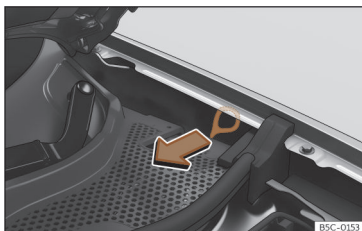

Fig. 208 Between the left wing panel and the engine bonnet hinge: Charging connector manual release mechanism puller.
The puller for the manual release mechanism is at the front left of the vehicle interior, above the charging socket»» **Fig. 208** .
- Pull the puller»» **Fig. 208** .